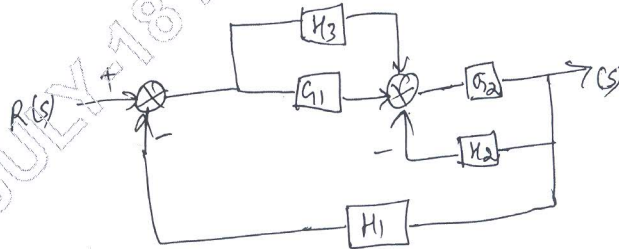

Fig Q8(b)
- 8 a. Determine the overall transfer function $\frac{C(s)}{R(s)}$ for the Fig Q8(a) given below: